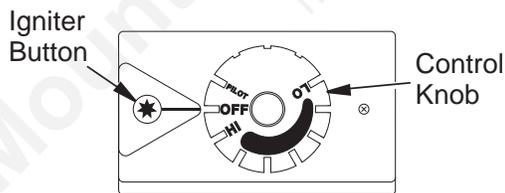

Figure 25 - Control Knob In The OFF Position
4. Wait five (5) minutes to clear out any gas. Then smell for gas, including near the floor. If you smell gas, STOP! Follow "B" in the safety information, **Page 18**. If you don't smell gas, go to the next step.
5. Turn control knob counterclockwise  to the PILOT position. Press in control knob for five (5) seconds (see **Figure 25**).